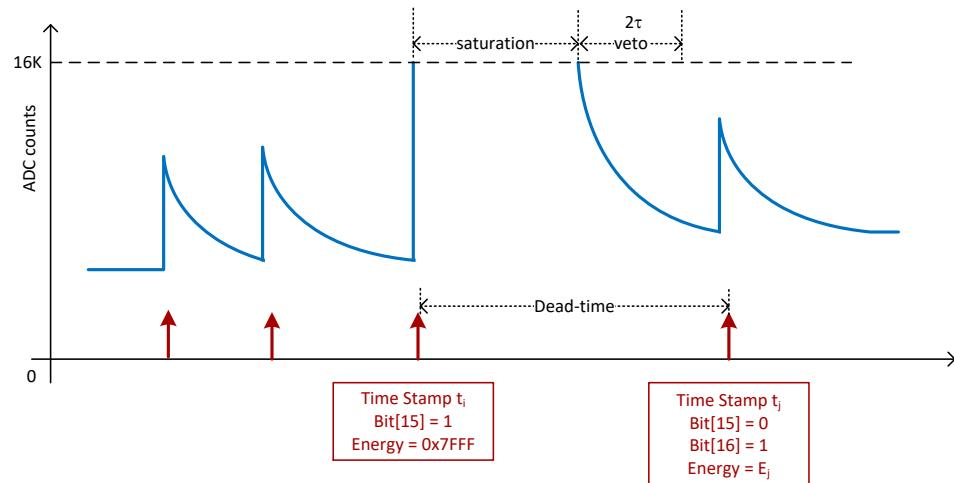

Fig. B.4: Dead-time in case of signal saturation.
EXTRAS: bit[0] = DEAD\_TIME. This is set to 1 when a dead time occurred before this event. The dead time can be due to either a signal saturation or a full memory status. Check **Fig. B.4** and **Fig. B.5** for more details
1. DEAD\_TIME in case of signal saturation (see **Fig. B.4**). If the input signal is over-range (exceeds the input dynamic range of 16k ADC channels) then the acquisition is inhibited. As soon as the input signal is in saturation an event is saved with the corresponding time stamp, and bit[15] set to 1. The energy value is set to the maximum. This event has to be discarded for the energy spectrum, anyway it can be considered for the dead-time calculation. Once the signal is out of saturation a new trigger is inhibited for a time window of 2\*Decay Time. The first event after the saturation is tagged with bit[16] = 1.